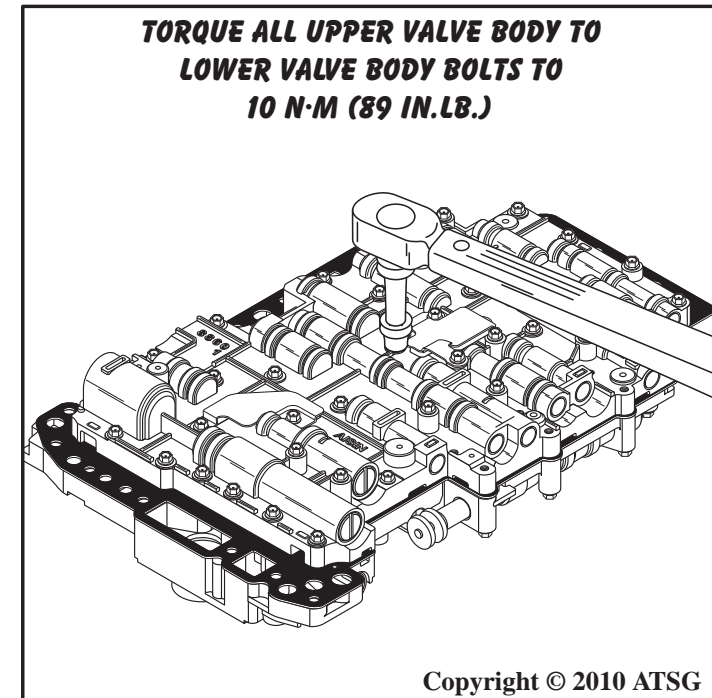

Figure 183
- 31. Torque all 39 upper valve body to lower valve body bolts to 10 N·m (89 in.lb.), as shown in Figure 183.